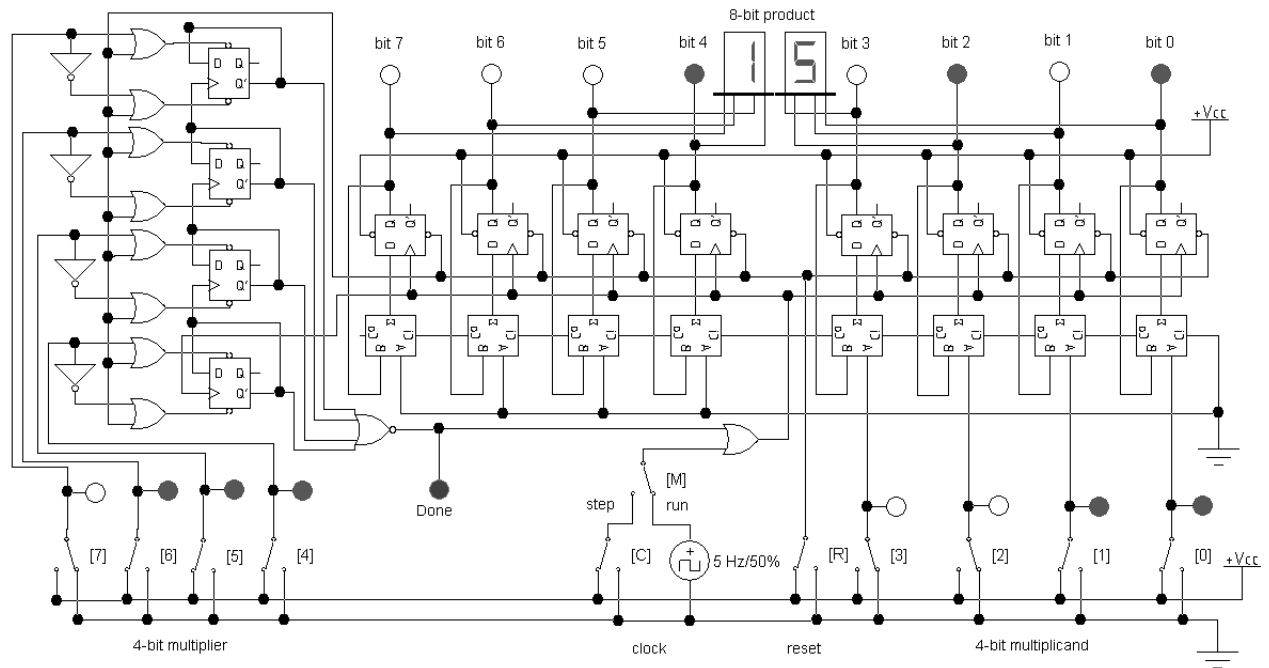

Figure 6.2: A 4x4 bit summing multiplier
Replace the manual clocking operation with an automatic one, using D-type latches connected as a down counter, as shown in Fig.6.2. Note the additions that have been made to the 8-bit adder circuit. The D-latches have active low preset and clear inputs. Switches set the 4-bit multiplier value which is loaded into the counter on reset. The rising edges of the clock pulses decrement the counter to zero and the circuit is then locked so that no further changes take place until a reset pulse restarts the circuit and another multiplication is performed.
- ❗ Modify your 8-bit adder circuit to match Fig.6.2 and verify its operation.